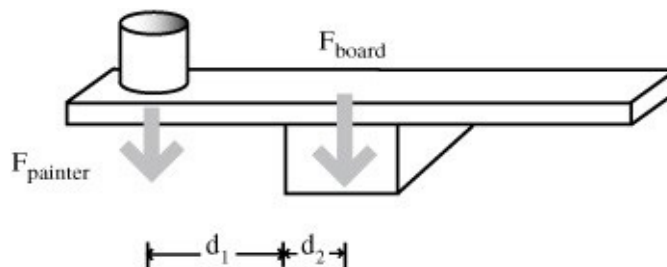

Figure 33-1 How far can the “painter” move toward the edge of the board?
3. Lay the meterstick over the block, as shown in Figure 33-1, with the 50-centimeter mark of the meterstick centered over the middle of the block.